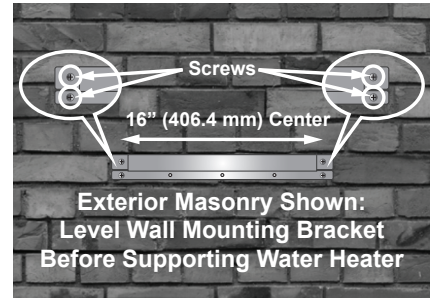

Figure 9 - Wall Bracket Installation
**1** Secure the wall mounting bracket to an exterior wall. As an example, Figure 9 shows the wall mounting bracket installed to masonry.